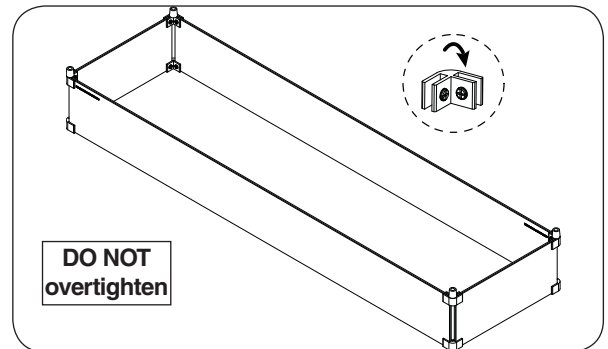

Fig. 21-2 Secure all screws
4. Gently secure all screws (on all brackets) $1/4$ " to $1/2$ " turn until panels are secure. **DO NOT OVERTIGHTEN.** See Fig. 21-2.